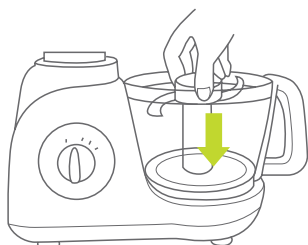

Fig. 9
1. With the processor bowl already fitted place the blade over the hexagonal drive shaft of the processor lightly turn the accessories until it engages onto the drive and the blades are close to the bottom of the bowl and level. (Fig. 9)